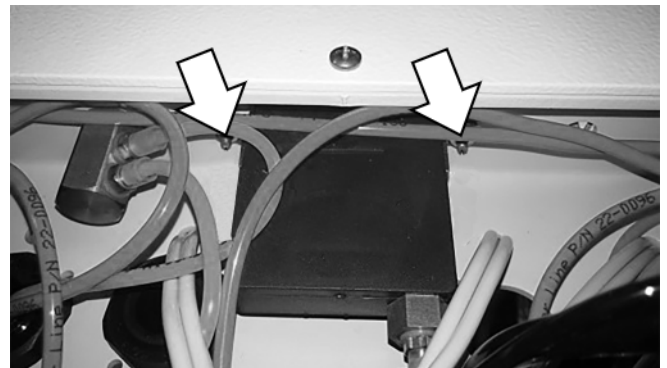

Fig. 1
- 3 Remove handpiece pressure gauge for drill access. Remove two nuts holding gauge to unit using 1/4" nut driver or small 1/4" crescent wrench. (Fig. 1)